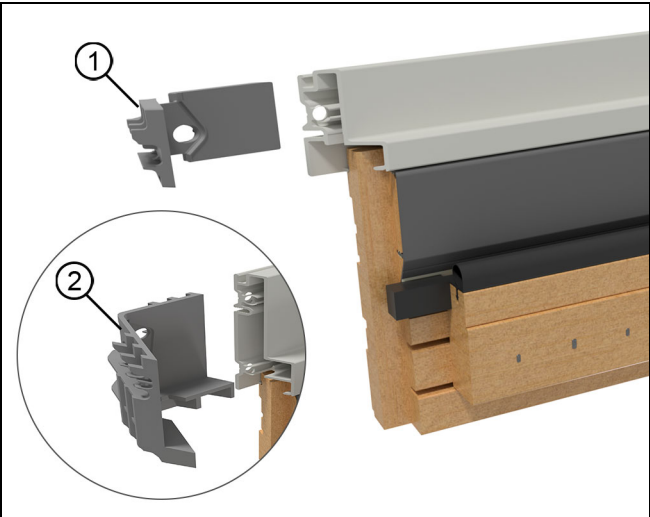

Figure 1
1. Align both head jamb keys into the hollows of the head jamb clad until fully seated. Orient the key with the taller ribs toward the exterior. See Figure 1.